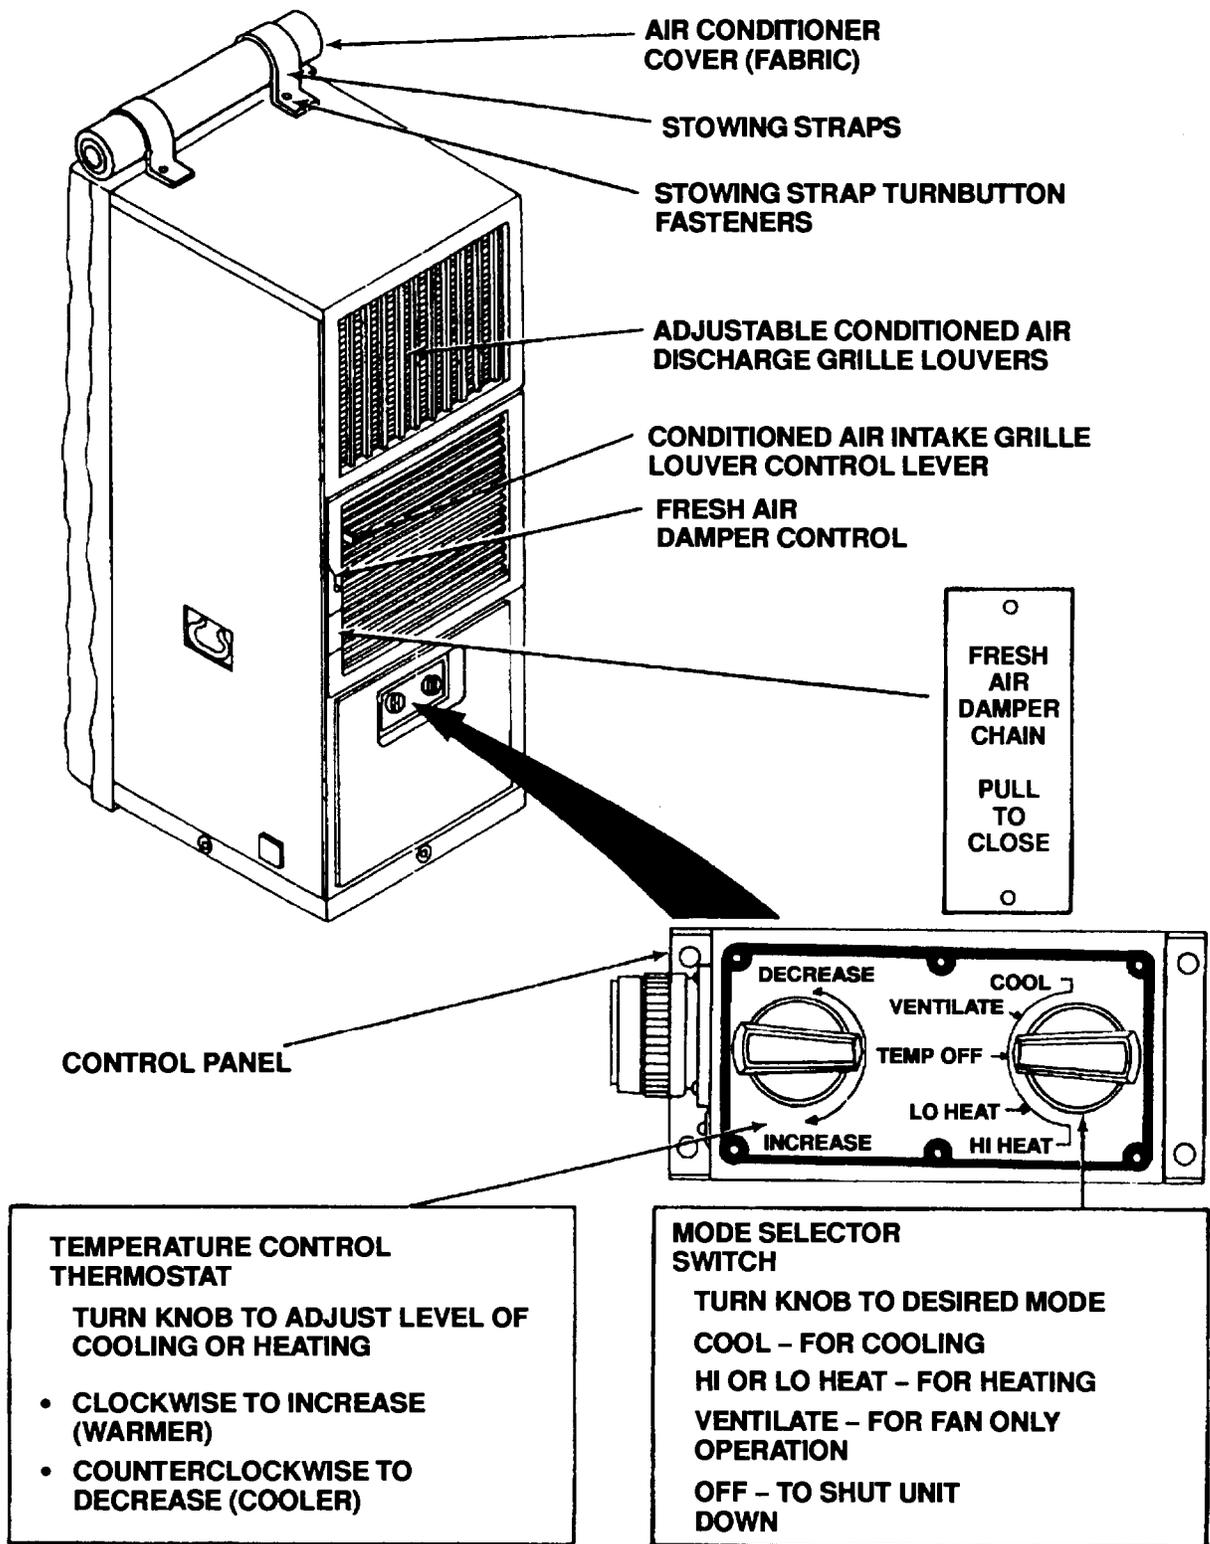

Figure 2-1. Operator's Controls Front
**2-2. OPERATOR'S CONTROLS.** See Figure 2-1 and Figure 2-2 for a general description of the controls that an operator will normally be concerned with. For specific operating instructions, see Section III and Section IV of this chapter.